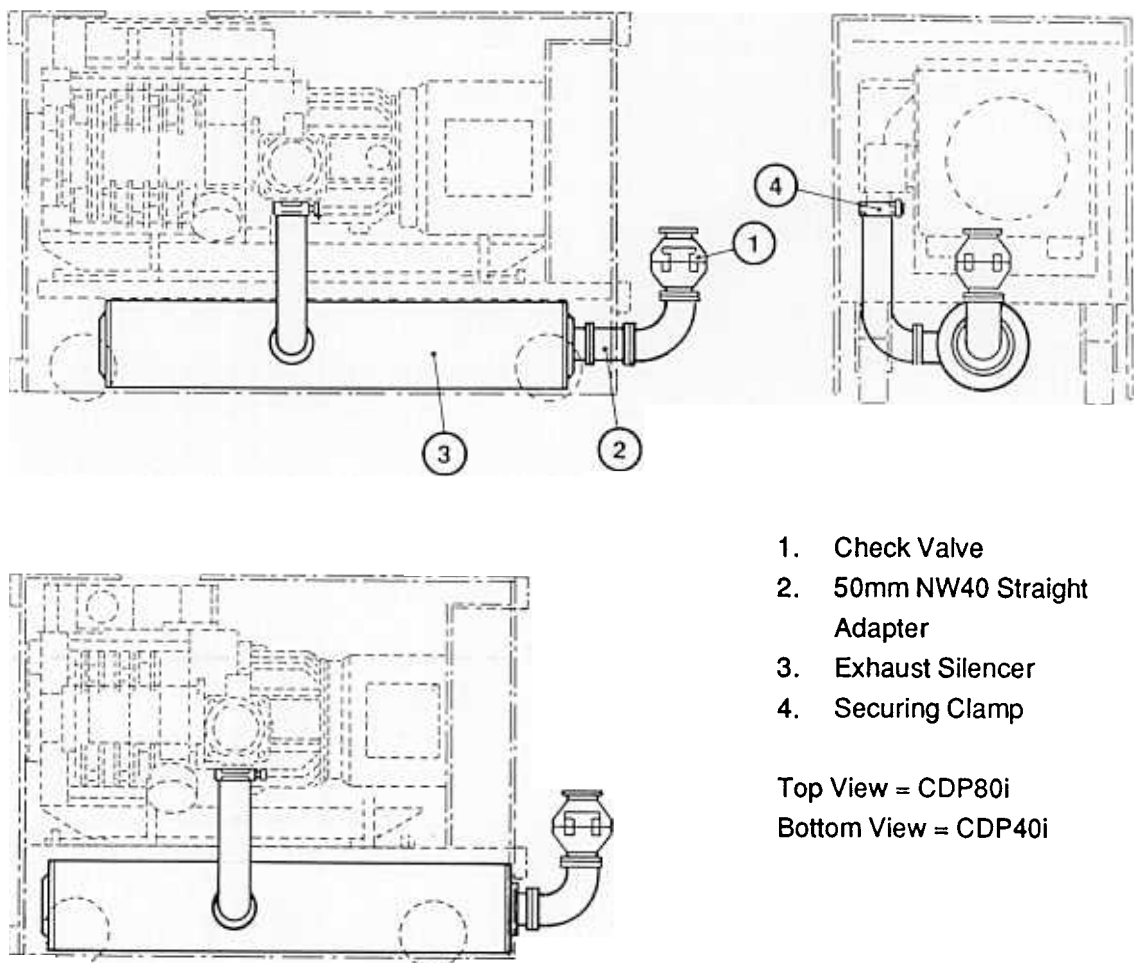

Figure 11 - Pump Exhaust Accessories
2. Refer to Figure 11 and select the correct pump configuration for your system.
7. Remove the protective caps and secure the long NW40 elbow (from the pump outlet) to the exhaust silencer inlet using the NW40 co-seal and NW40 clamp assembly provided in the exhaust fitting kit (refer to Figure 11).
Refer to Figure 11 and select the correct pump configuration for your system.